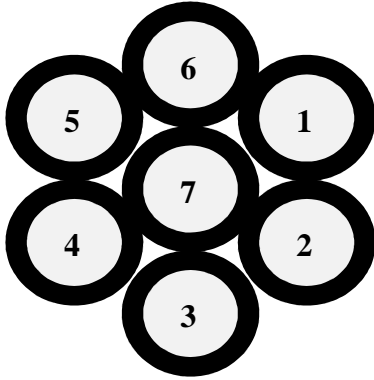

Figure 6
9.1 See Fig. 6 for the tube orientation of a 7-tube cable.